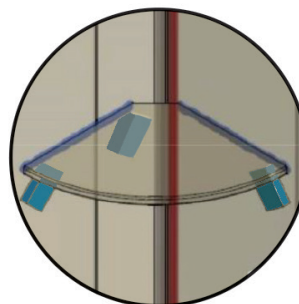

FIG 27.
- Carefully place shelf on stabiliser blocks and gently push into corner. Check for level (FIG 27).